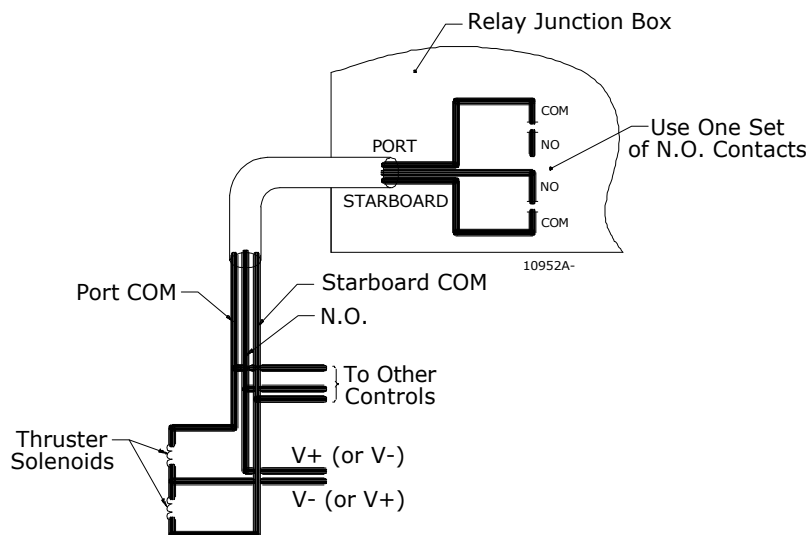

Figure 12 – Typical Thruster Connections
- F) Make connections at the Thruster. Refer to the information supplied with the Thruster and Figure 12.